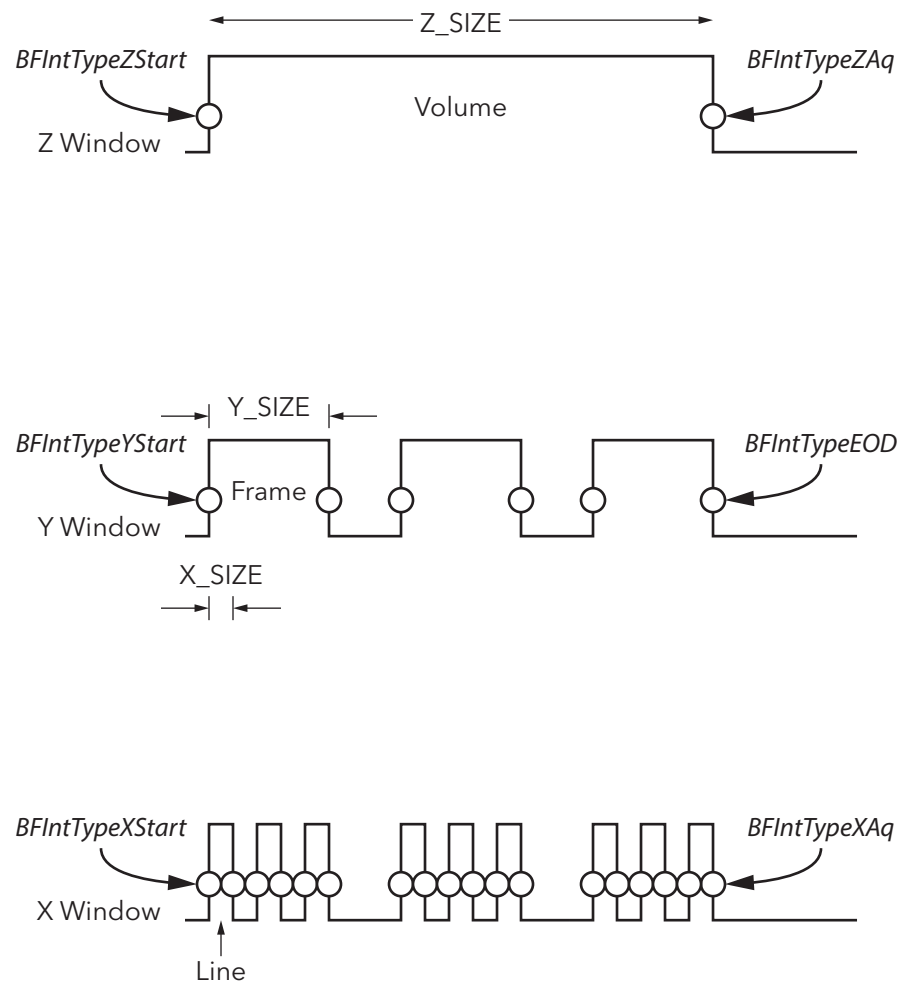

Figure 2-5 X/Y/Z Interrupts
Interrupts at the start and end of each major window are available for use by host processes. The X, Y and Z windows (line, frame volume) all can provide interrupts. There are no interrupts for the V Window (hypervolume). Figure 2-5 Show the relationship between the interrupts and the acquisition Windows.
*Note: The labels in italics in Figure 2-5 are the actual interrupt names that can be used with the BitFlow SDK function calls.*